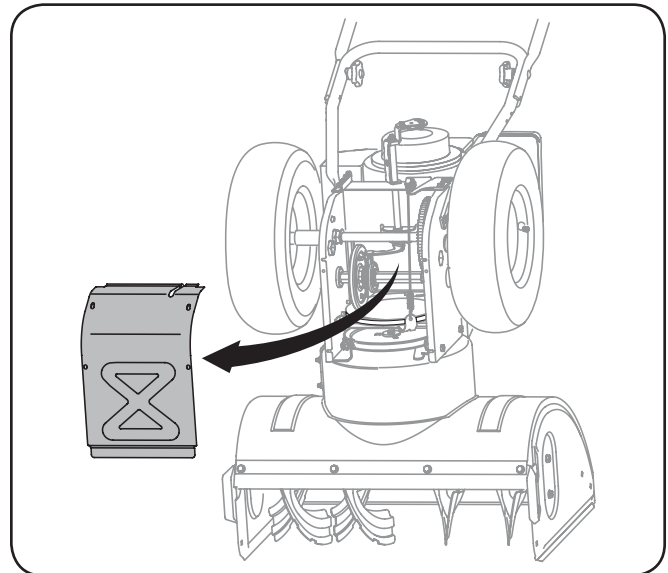

Figure 7-3
5. Remove the frame cover from the underside of the snow thrower by removing the self-tapping screws which secure it. See Fig. 7-3.
- Remove the frame cover from the underside of the snow thrower by removing the self-tapping screws which secure it. Refer to Fig. 7-3.